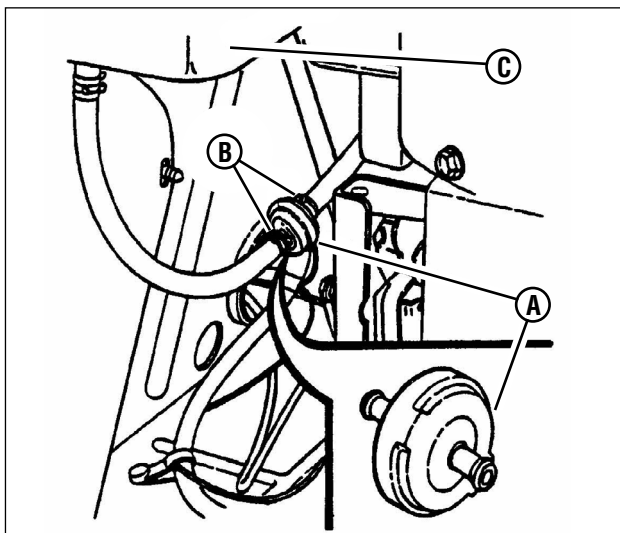

Figure 30: Replacing the fuel filter
IMPORTANT: To stop the flow of fuel, the fuel tank (C, Figure 30) may be removed from the bracket and set on the floor so the fuel level will be below the filter. Refer to the section entitled "REMOVING FUEL TANK".
1. Remove the hose clamps (B, Figure 30) from the fuel filter (A).